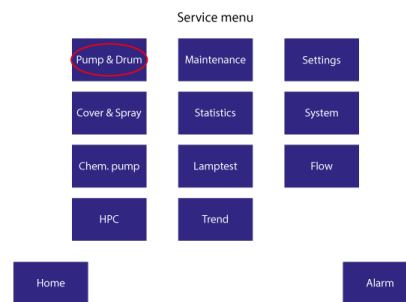
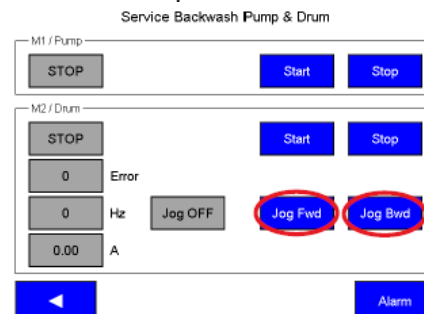
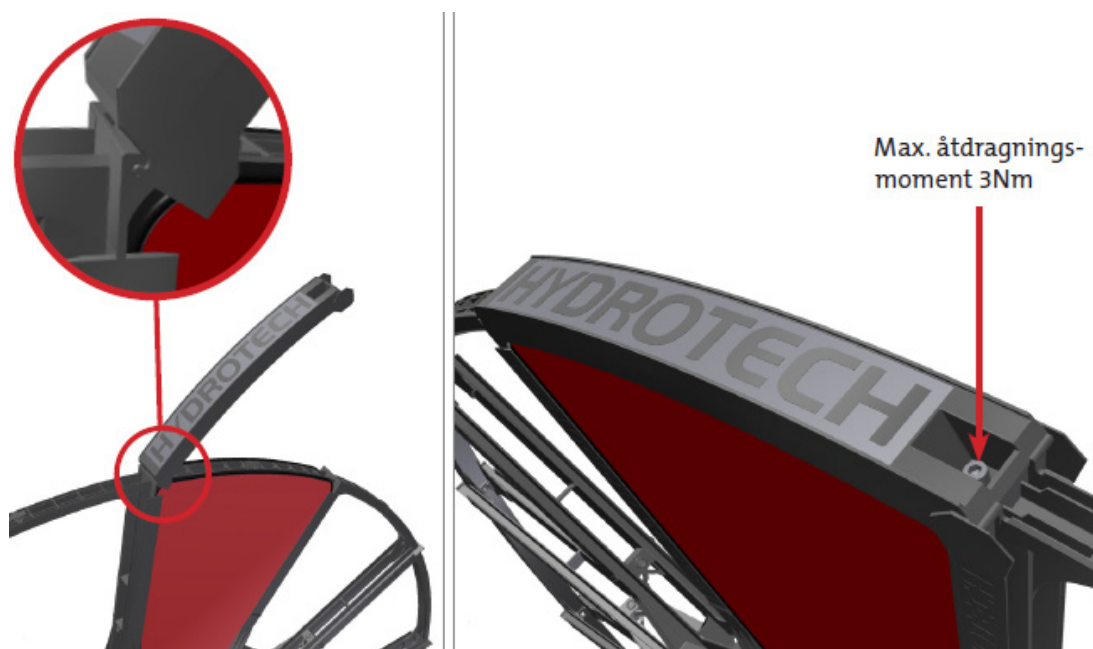

Figure 6.25 Service menu.
Figure 6.26 Service Backwash Pump & Drum window.
Figure 6.27 Montering av filtersegmentets lock.
3. Select “Pump & Drum”, see Figure 6.25. Use the “Jog Fwd” and “Jog Bwd” buttons to set the drum in the desired mode, see Figure 6.26.
4. Turn the main power switch to the OFF (0) position and lock with a padlock.
5. Undo the filter segment cover screw and remove the cover, see Figure 6.27.
8. Re-fit the filter segment cover (see Figure 6.27) and tighten the screw.